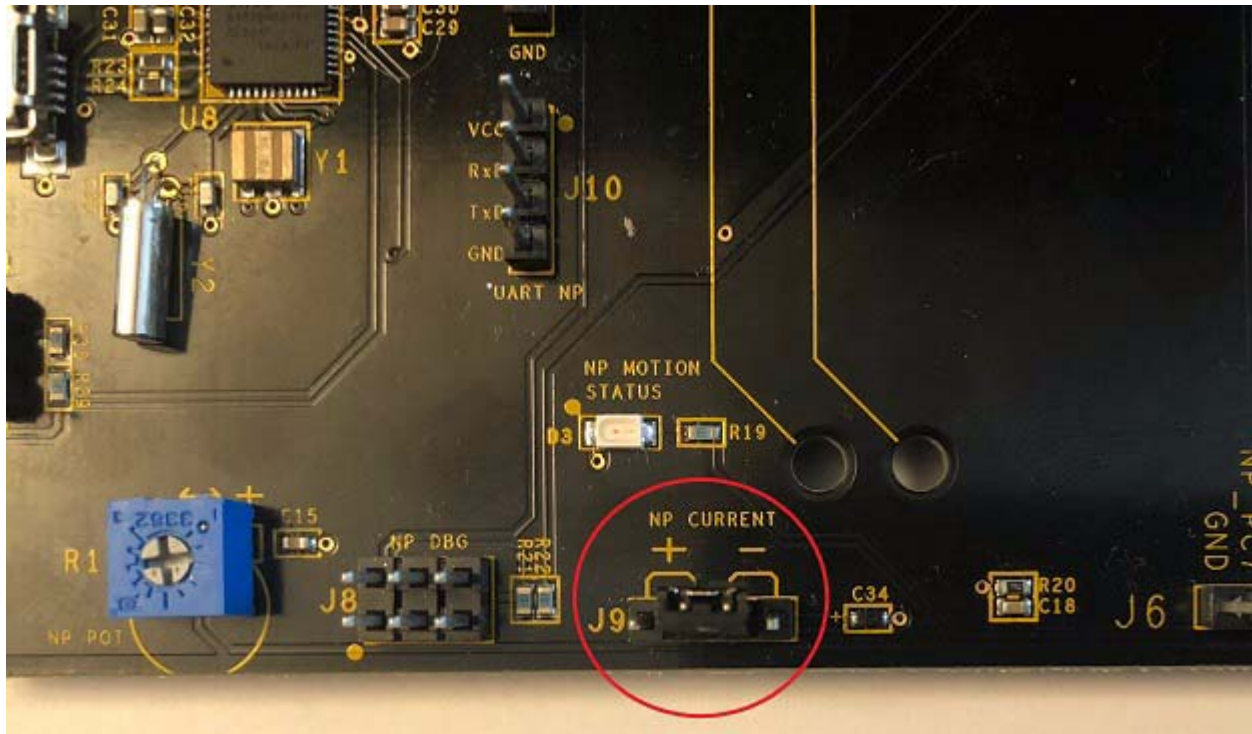

Figure 12. NP Current Jumper Installed on J9
1. Ensure that the NP Current Jumper is installed on J9. It should be installed across the centre two pins, as shown in Figure 12.